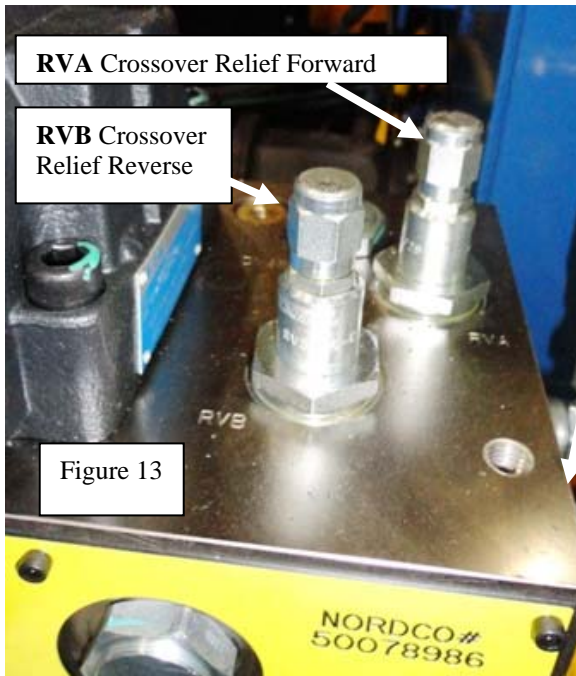
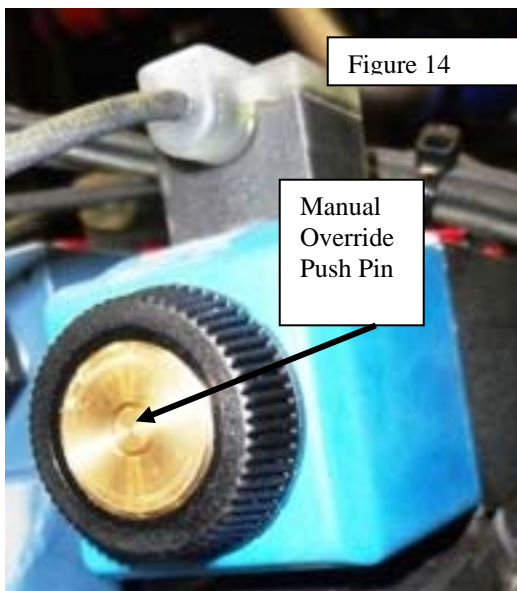

Figure 13
Figure 14
8. Manually override the propel reverse directional control valve (B) by pushing in the **push pin** (Figure 14) while adjusting (**RVB**) valve (Figure 13) counterclockwise (CCW) until pressure at gauge just begins to drop. This is considered cracking pressure. Turn back 1/8 of a turn and tighten locknut.
11. Manually override the forward directional control valve (A) by pushing in the **push pin** (Figure 14) while adjusting (**RVA**) valve (Figure 13) counterclockwise (CCW) until pressure at gauge just begins to drop.